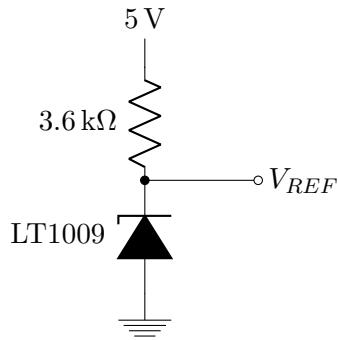

Figure 9: Schematic of the LT1009 precision voltage reference circuit.
1. Build circuit shown in Fig. 9 on your breadboard.